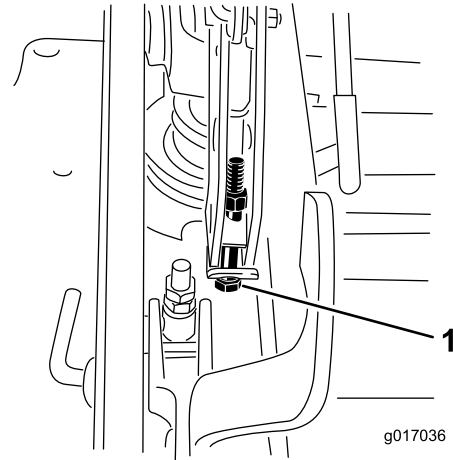

Figure 95
12. If the deck is too low, tighten the single point adjustment bolt by rotating it clockwise. If the deck is too high, loosen the single point adjustment bolt by rotating it counterclockwise (Figure 95).